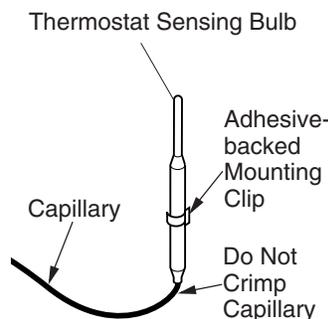

Figure 54 - Positioning the Thermostat Sensing Bulb in the Vertical Position with the Capillary at the Bottom
4. The mounting clip must be a minimum of 3" from bottom of fireplace to prevent crimping of capillary. Once you have decided on a location, clean the area thoroughly. Remove the paper backing from the adhesive on back of mounting clip. Press the clip into the new location so that the thermostat sensing bulb will be positioned vertically with the capillary at the bottom (see Figure 54). Slide the thermostat sensing bulb into the clip.